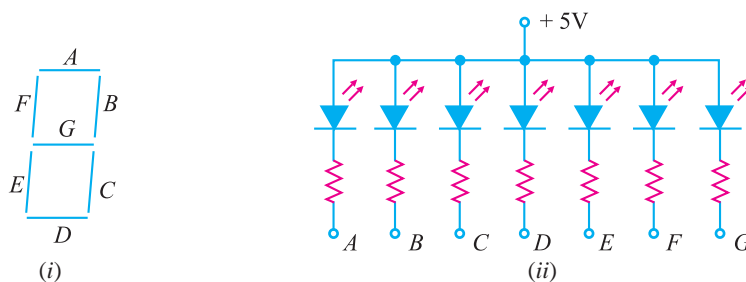

Fig. 7.9
**(ii) Seven-segment display.** LEDs are often grouped to form seven-segment display. Fig. 7.9 (i) shows the front of a seven segment display. It contains seven LEDs (*A, B, C, D, E, F* and *G*) shaped in a figure of \*8. Each LED is called a \*\*segment. If a particular LED is forward biased, that LED or segment will light and produces a bar of light. By forward biasing various combinations of seven LEDs, it is possible to display any number from 0 to 9. For example, if LEDs *A, B, C, D* and *G* are lit (by forward biasing them), the display will show the number 3. Similarly, if LEDs *C, D, E, F, A* and *G* are lit, the display will show the number 6. To get the number 0, all segments except *G* are lit.
Fig. 7.9 (ii) shows the schematic diagram of seven-segment display. External series resistors are included to limit currents to safe levels. Note that the anodes of all seven LEDs are connected to a
common positive voltage source of +5 V. This arrangement is known as *common-anode type*. In order to light a particular LED, say A, we ground the point A in Fig. 7.9 (ii). It forward biases the LED A which will be lit.